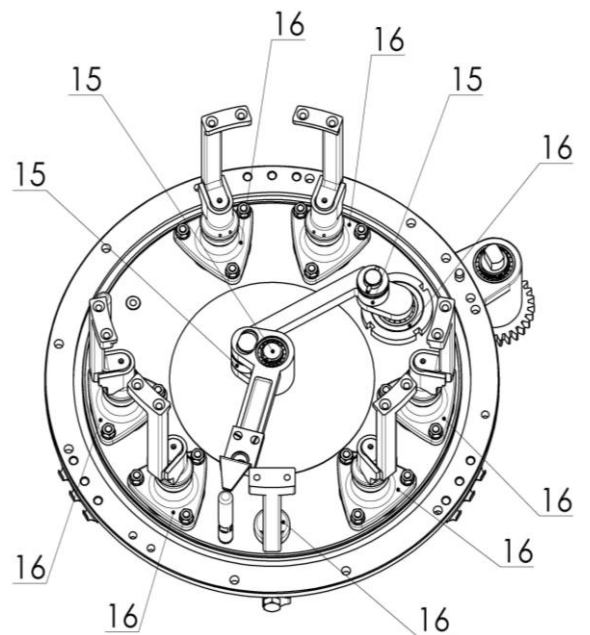

Fig. 15
Check the clearances of the movable connections (Pos. 15, Fig. 15). If the clearance is above 0.5 mm, it is necessary to replace the friction parts with new ones.
- If there are any leakages, it is necessary to replace the gaskets and the shaft seals that ensure oil-proof tightness of the parts (Pos. 16, Fig. 15).